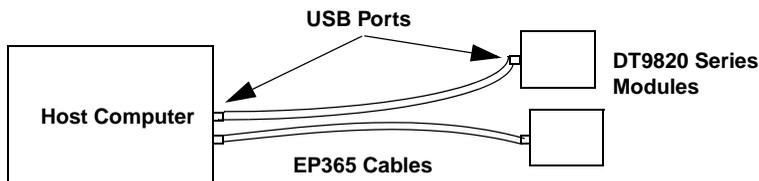

Figure 2: Attaching the DT9820 Series Module Directly to the Host Computer
2. Attach the other end of the EP365 cable to one of the USB ports on the host computer, as shown in Figure 2.